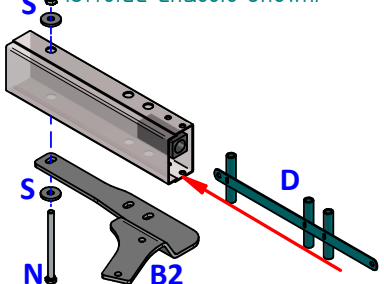

Figure 3
3. Using **Figure 3** as a guide loosely fix items **B1**, **B2** and items **C** onto the chassis using items **N** with items **S**.